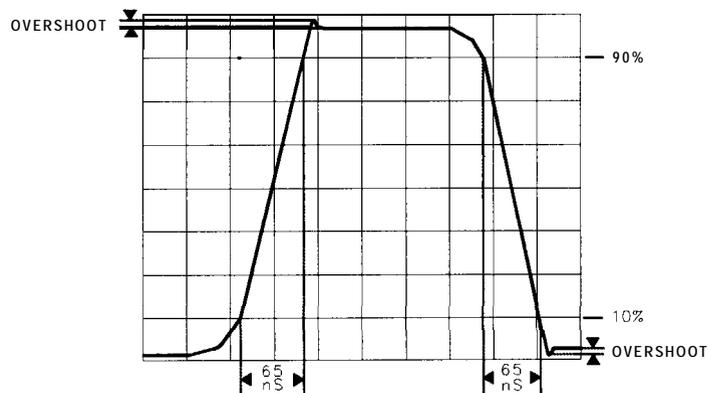

Figure 3-28.
18. Use the oscilloscope $\Delta t \Delta V$ markers to measure the risetime, falltime, and percent overshoot of the composite X deflection waveform. Rise and fall times should both be less than approximately 65 ns between the 10% and 90% points on the waveform. Overshoot should be less than 3% (approximately 0.25 divisions). See Figure 3-28.